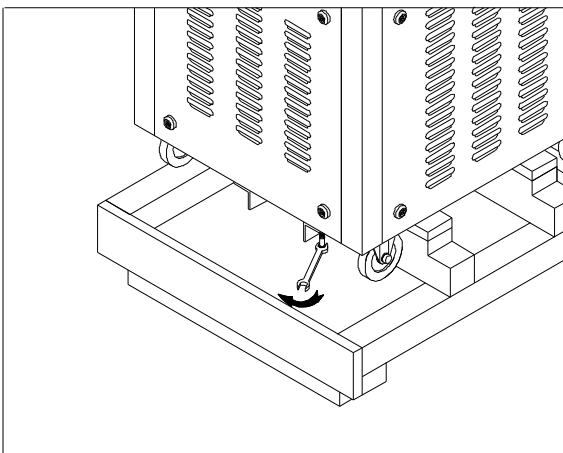

Figure 4-1
- B. Remove 4 nuts holding the machine to the pallet (Figure 4-1).